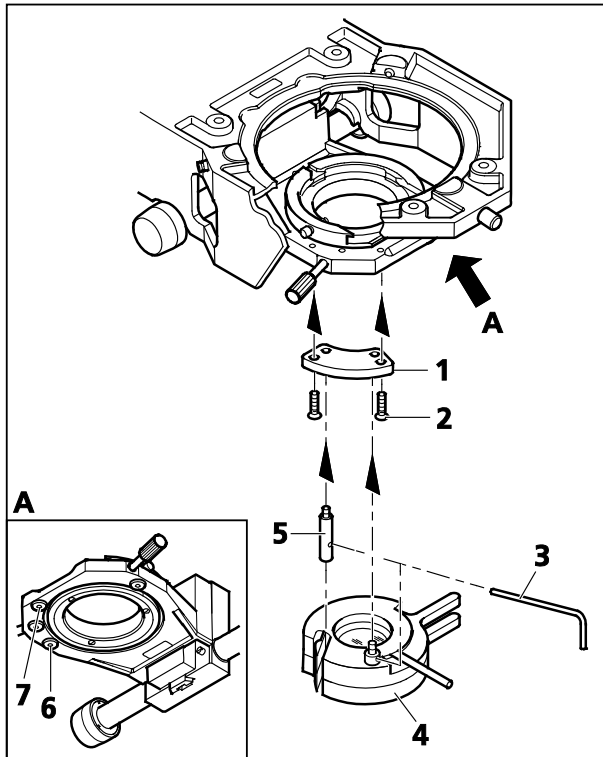

Fig. 75 Installing Polarizer D, fixed
- Fasten adapter plate (Fig. 75/1) with screws (Fig. 75/2) to the condenser carrier, using holes (Fig. 75/6 and 7).
- Hold the polarizer (Fig. 75/4) parallel to the bottom side of the condenser carrier. Using the offset adjusting lever (Fig. 75/3), screw the retaining bolt of the polarizer (Fig. 75/4) into the rear tapped hole of the adapter plate as far as it will go.
- Using the adjusting lever (Fig. 75/3), screw the detent bolt (Fig. 75/5) into the front tapped hole of the adapter plate as far as it will go.